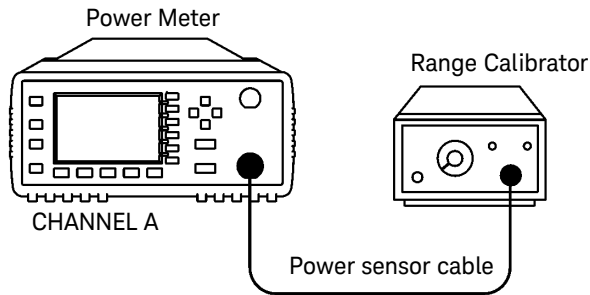

Figure 2-4 Instrument Accuracy (Average Path) Test Setup
- 1 Connect the equipment as shown in Figure 2-4.